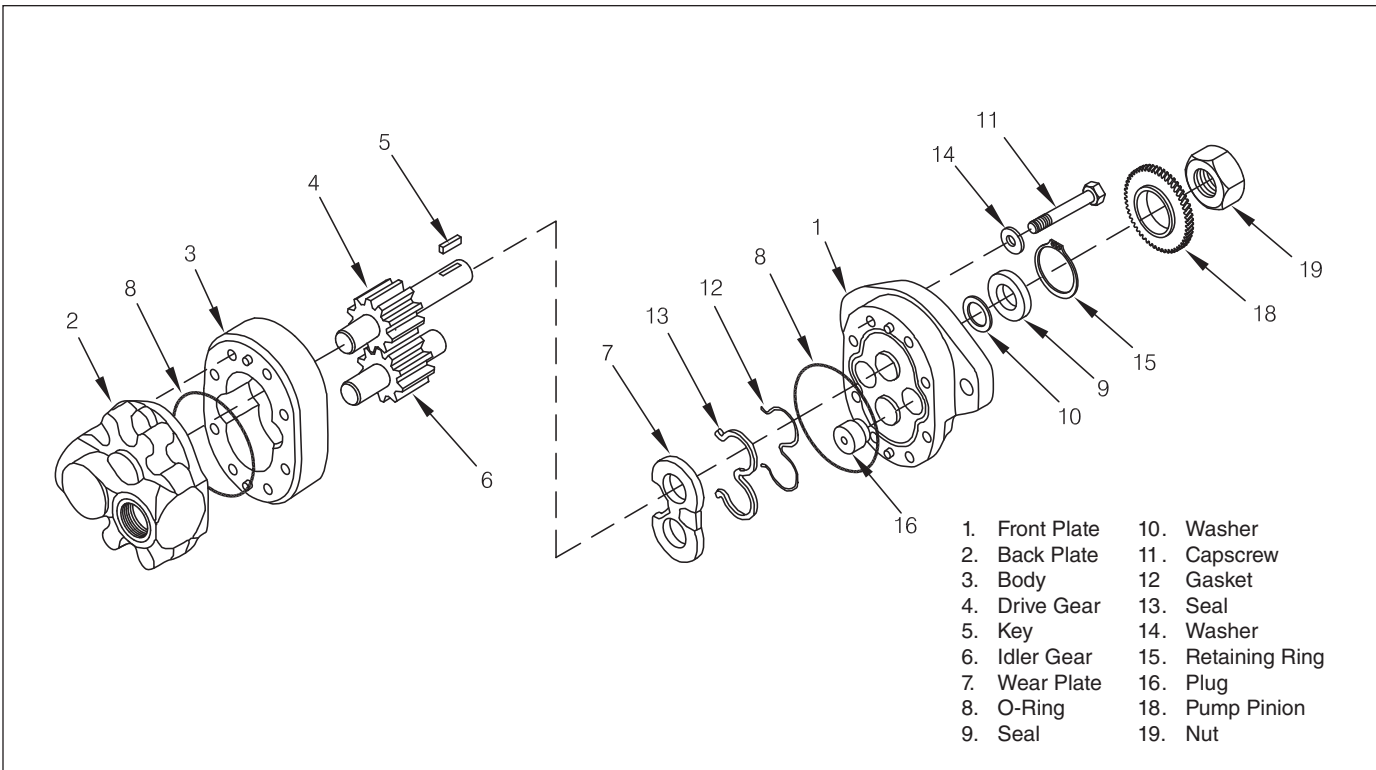

Figure 3-19 Hydraulic Pump
1. Replace as new parts seal kit (7, 12, 13), O-ring (8), and shaft seal (9).
2. Press protector gasket (12) and back-up seal (13) into wear plate (7).
3. Drop plug (16) into right-side hole in the front plate (1) as shown in Figure 3-19 above.
4. Place wear plate (7), along with gasket (12) and seal (13), on top of the inside face of the front plate - bronze face up.
5. Install O-ring (8) in the groove of front plate.
8. Install O-ring (3) in groove of backplate.
10. Place pump in vise, shaft down, and install capscrew (11) with washer (14). Torque evenly 25 to 28 lb/ft. (33.9 to 38.0 Nm).
11. Oil shaft seal (9) with petroleum jelly and work shaft seal over drive gear shaft taking care not to cut rubber sealing lip.